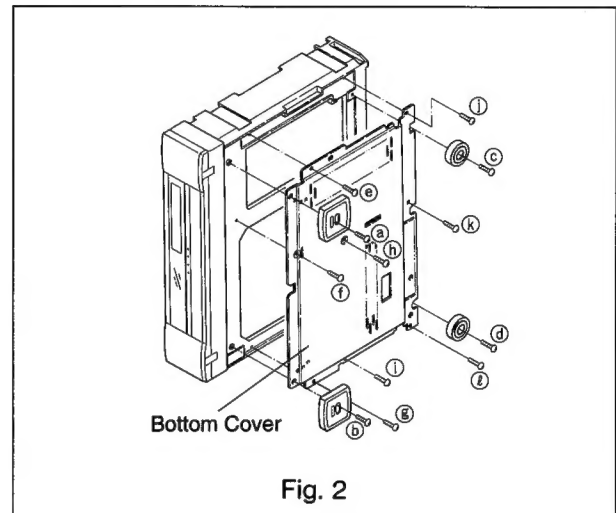

Fig. 2
- A. Remove twelve screws (Ⓐ ~ Ⓛ) retaining the Bottom Cover as shown in Fig. 2.